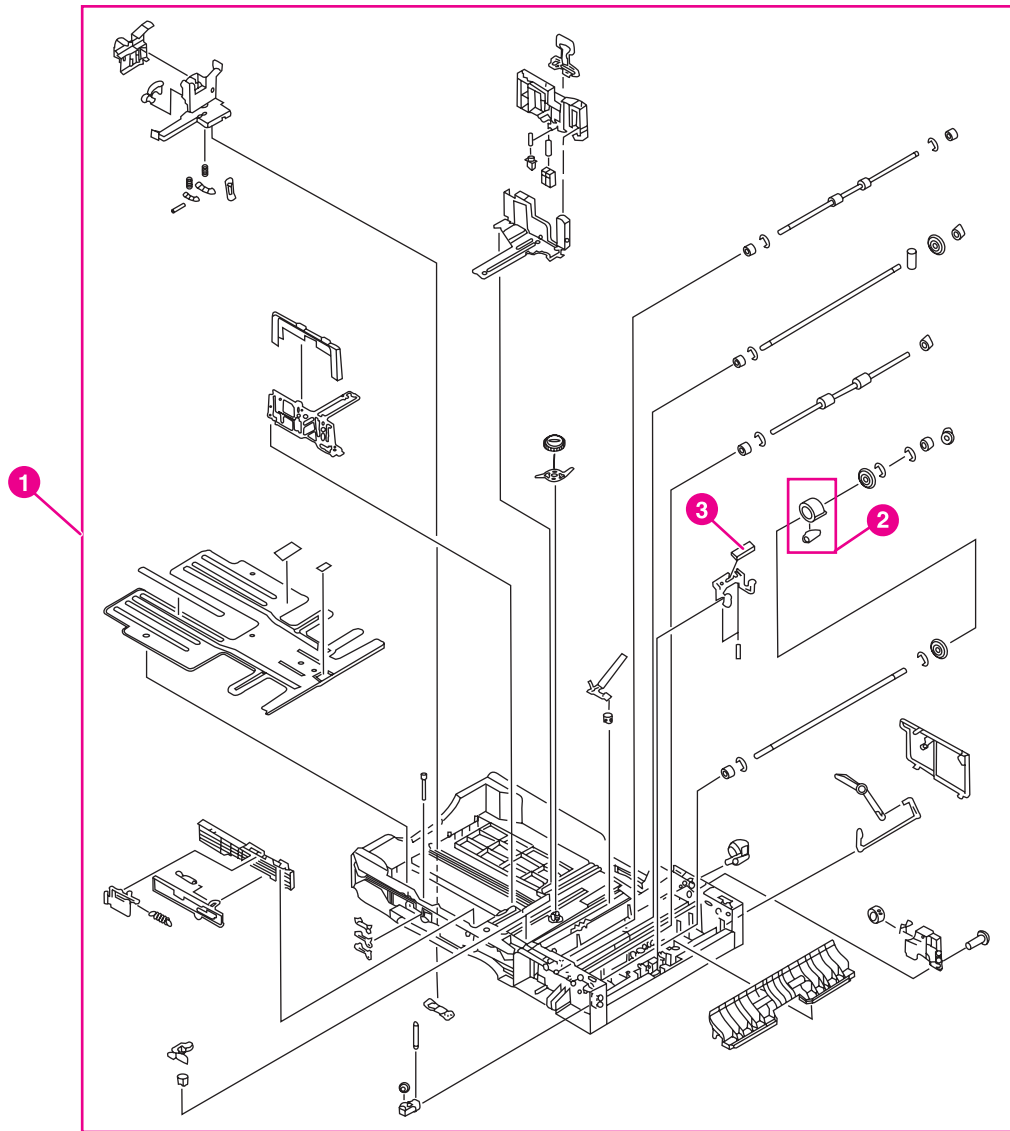
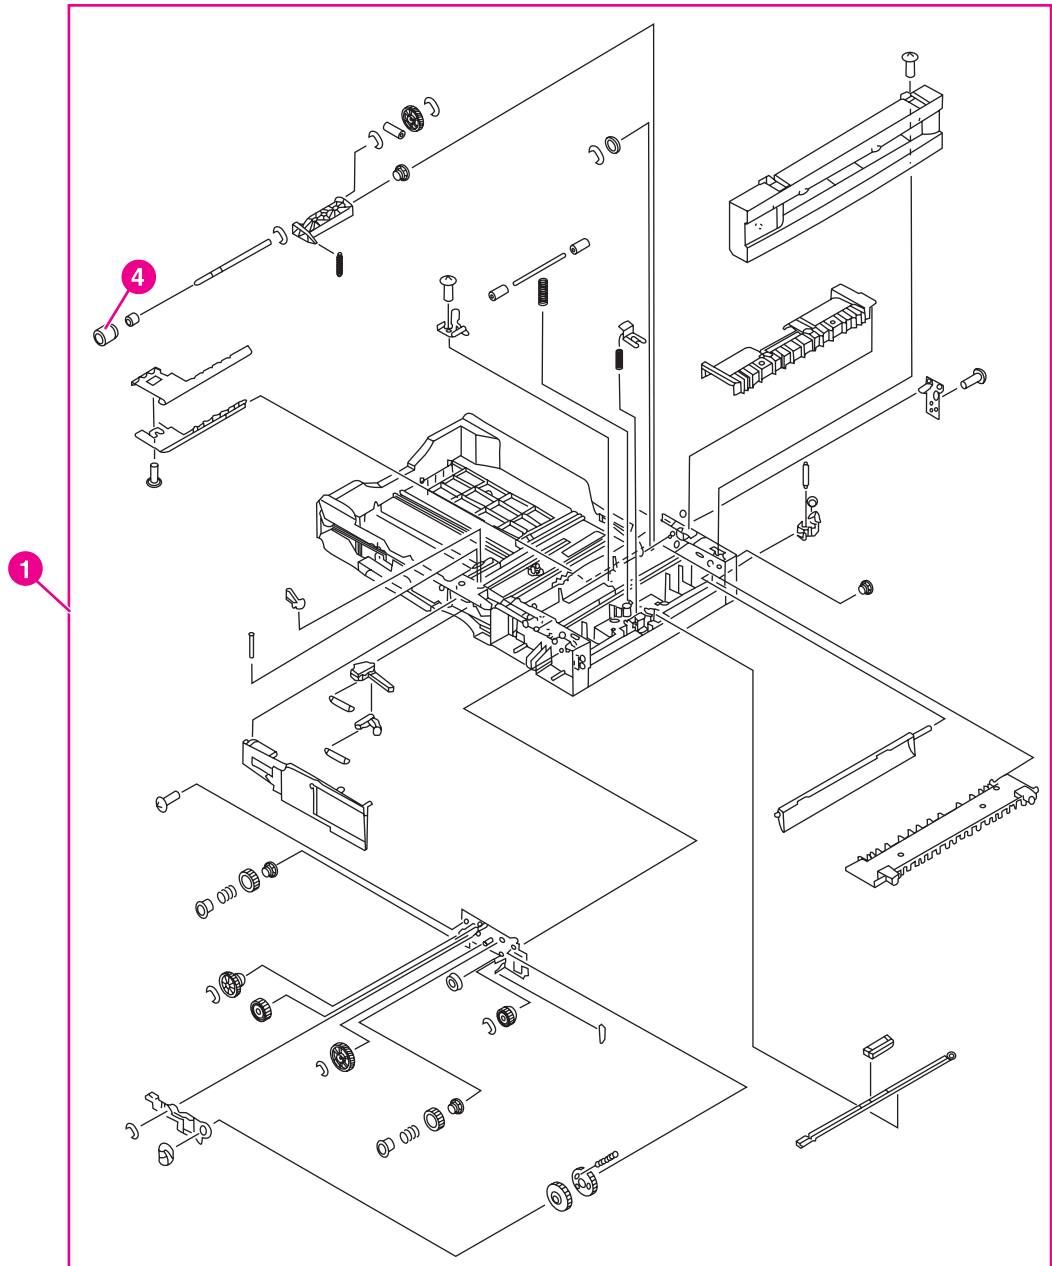

Figure 8-18. Cassette (1 of 2)
Figure 8-19. Cassette (2 of 2)
Table 8-19. Cassette lists parts shown in Figure 8-18. Cassette \(1 of 2\) and Figure 8-19. Cassette \(2 of 2\). If you order a replacement cassette (item 1), you will receive all parts shown in both figures.